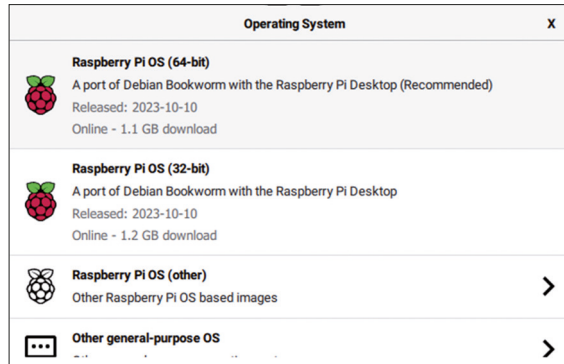

Figure 1.16: Select the operating system.
- Click **Operating System** and select the operating system at the top of the list as: **Raspberry Pi OS (64-bit)**. See Figure 1.16.